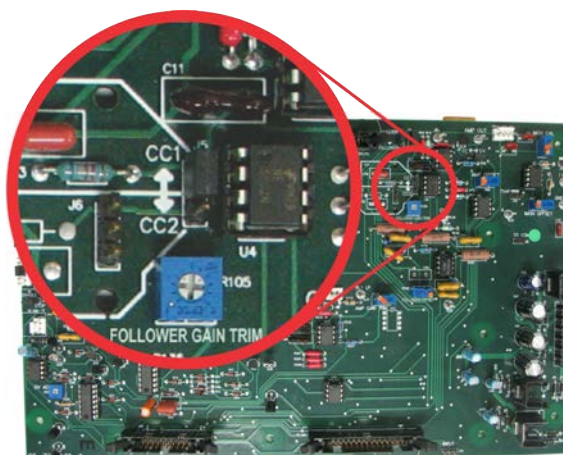

Figure 5.3 – Compensation Setting
When the 2105 amplifier is used in Controlled Current (CC) mode, the current control loop is tuned with one of two available RC networks: CC1 (R63 and C16) or CC2 (R82 and C25). Place **Jumper J5** in the **UP** position to select the **CC1** network (factory default). Place **Jumper J5** in the **DOWN** position to select the **CC2** network. See **Figure 5.3**. For more information on Controlled-Current operation, see the “**Applications**” section of this manual.